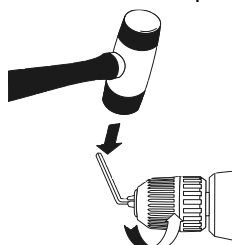

Fig. 9
**NOTE:** Turn the screw **CLOCKWISE** to remove it. This screw has a left-handed thread. Insert the hex key into the chuck and tighten jaws of chuck securely (Fig. 9). Tap the hex key sharply with a mallet in a **COUNTERCLOCKWISE** direction. This will loosen the chuck on the spindle. The chuck can now be unscrewed and removed from the spindle by hand.
Insert the hex key into the chuck and tighten jaws of chuck securely (Fig. 9). Tap the hex key sharply with a mallet in a **COUNTERCLOCKWISE** direction. This will loosen the chuck on the spindle. The chuck can now be unscrewed and removed from the spindle by hand.